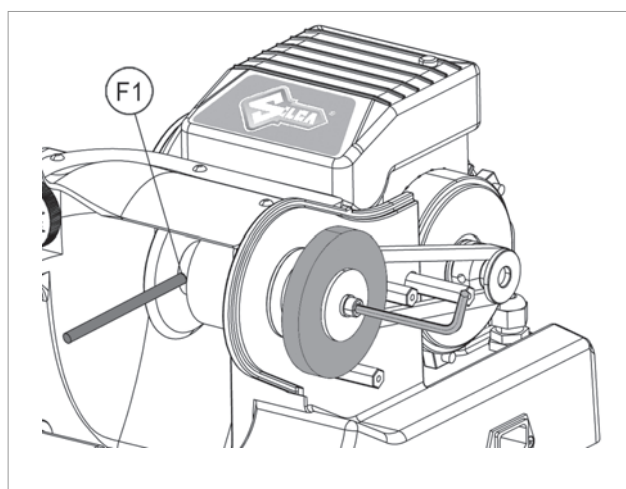

Fig. 29
- 2) Slot the locking rod (provided) into the hole (F1) of the cutting tool shaft (Fig. 29).
- 3) Use the Allen wrench to loosen the screw holding the brush in place (Fig. 29).
- 6) Place the cover (P).